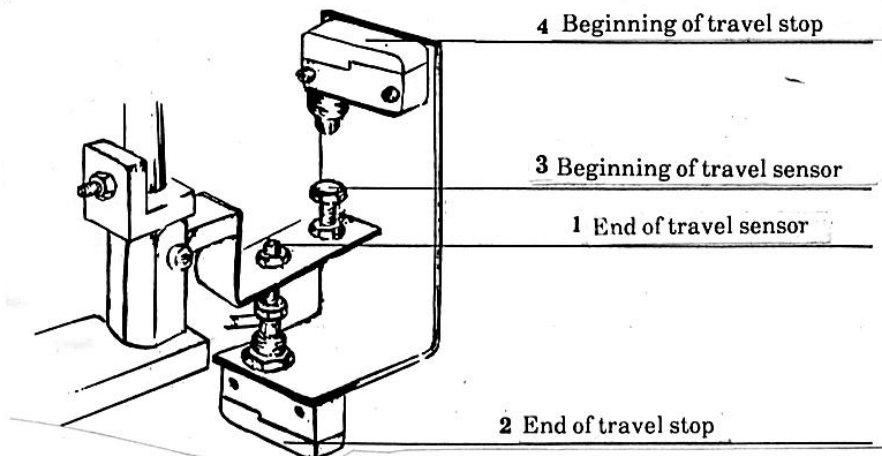

FIGURE 13
## VI - ADJUSTING THE BEGINNING OF TRAVEL SENSOR (FIGURE 13):
## VII - ADJUSTING THE END OF TRAVEL STOP - (This should only be done in those cases mentioned under "operating faults and solutions" Page 16) (Fig 13- item 3)
- 3 - Loosen the locknuts of the END OF TRAVEL stop (Fig 13) and tighten the latter